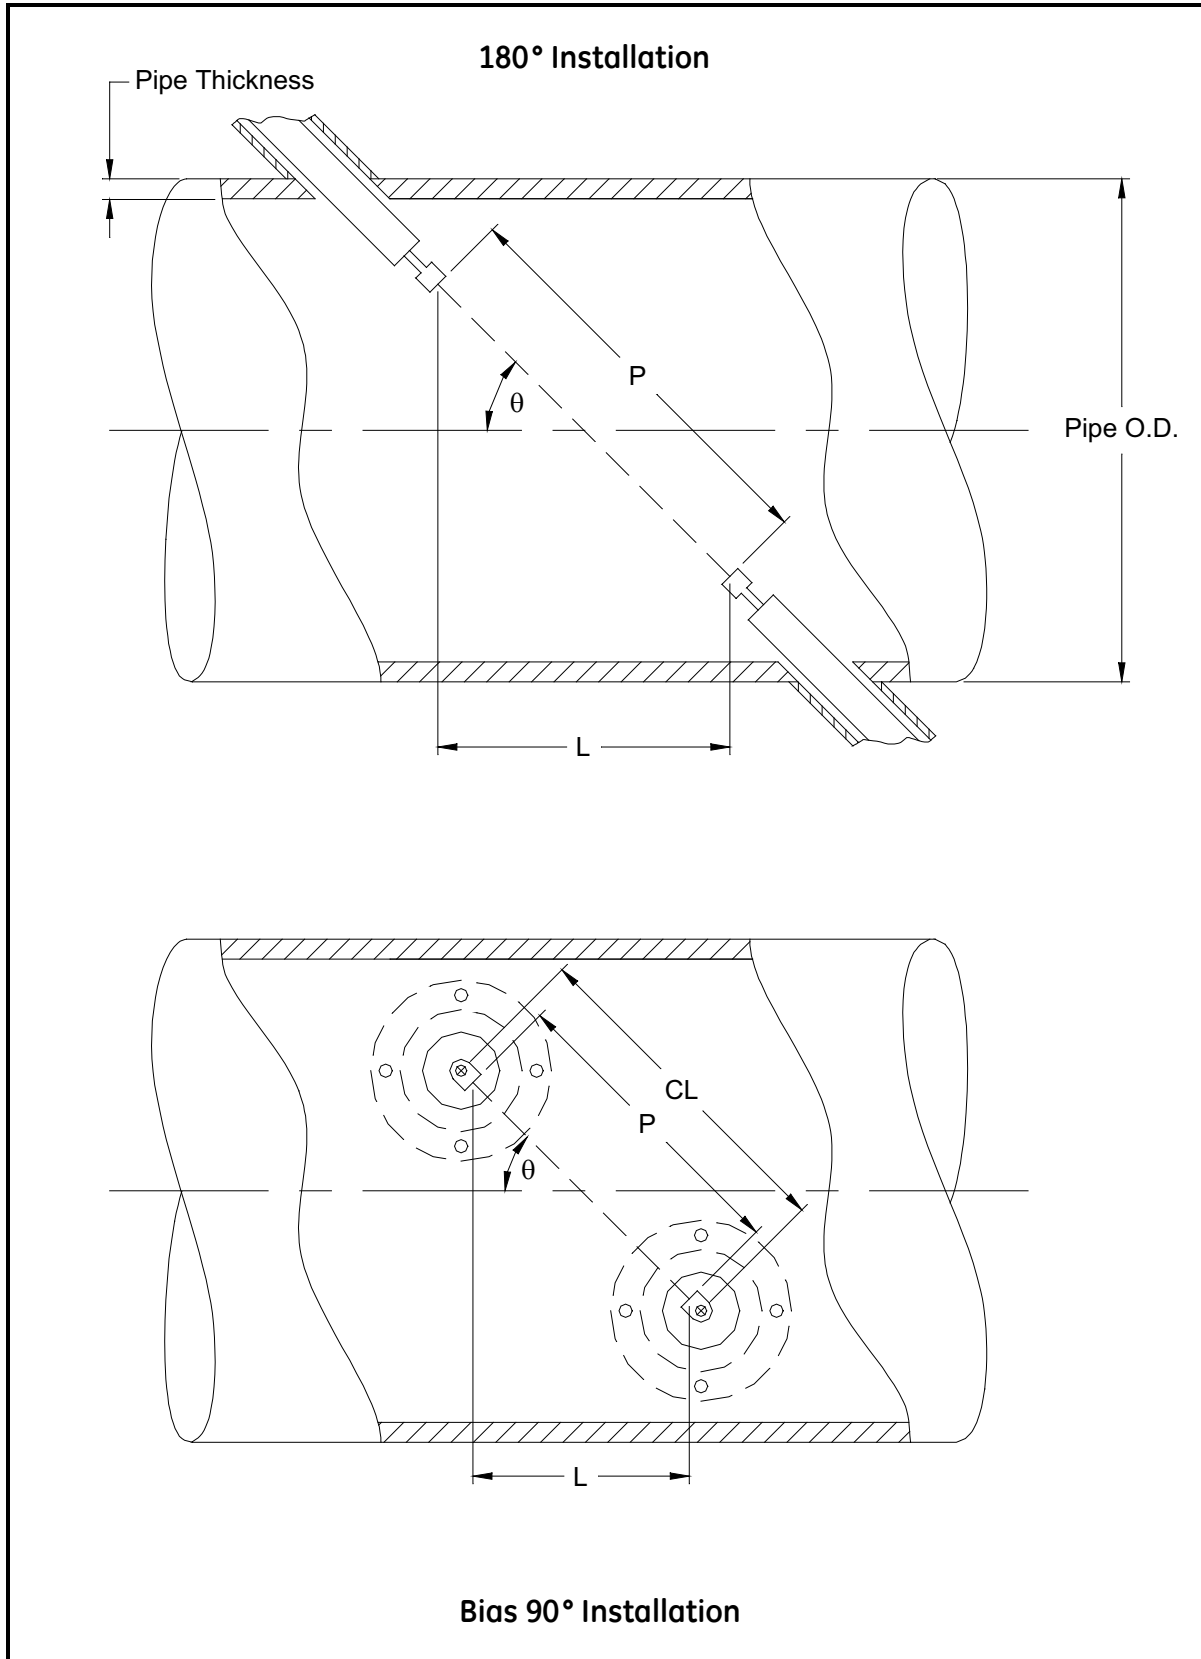

Figure 18: Top View of Transducer Installations
The accuracy of the programmed P and L values is critical to precise flow rate measurements. If the factory supplies the flowcell for the system, the correct values will be included in the documentation supplied with the unit. For transducers installed on an existing pipe (see Figure 18 on page 62), P and L must be measured at the site. This appendix provides instructions for properly determining these dimensions.
Whenever possible, physically measure the face-to-face distance (P) and the axial distance (L) between the centers of the flat faces of the transducers. Refer to Figure 18 on page 62 for an illustration of the proper distances to measure in a typical installation.
With a Bias 90° transducer installation, it sometimes happens that the only known parameters are the transducer angle (θ) and the centerline distance between the transducer bodies (CL). In these cases, it is still possible to calculate P and L by combining Equation D-1 above with the additional Equation D-2 below (see Figure 18 on page 62):